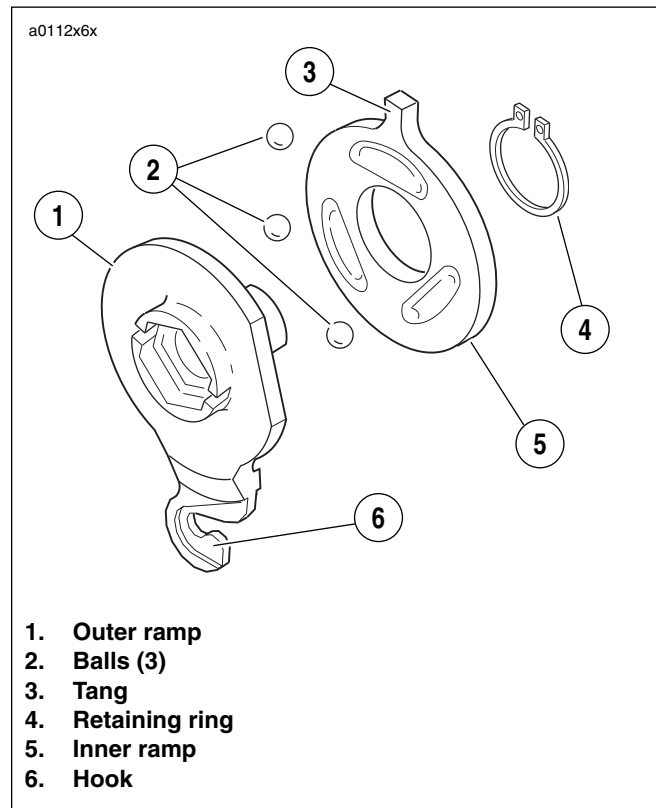

Figure 6-7. Inner & Outer Ramp
1. See Figure 6-7. Assemble inner and outer ramps.